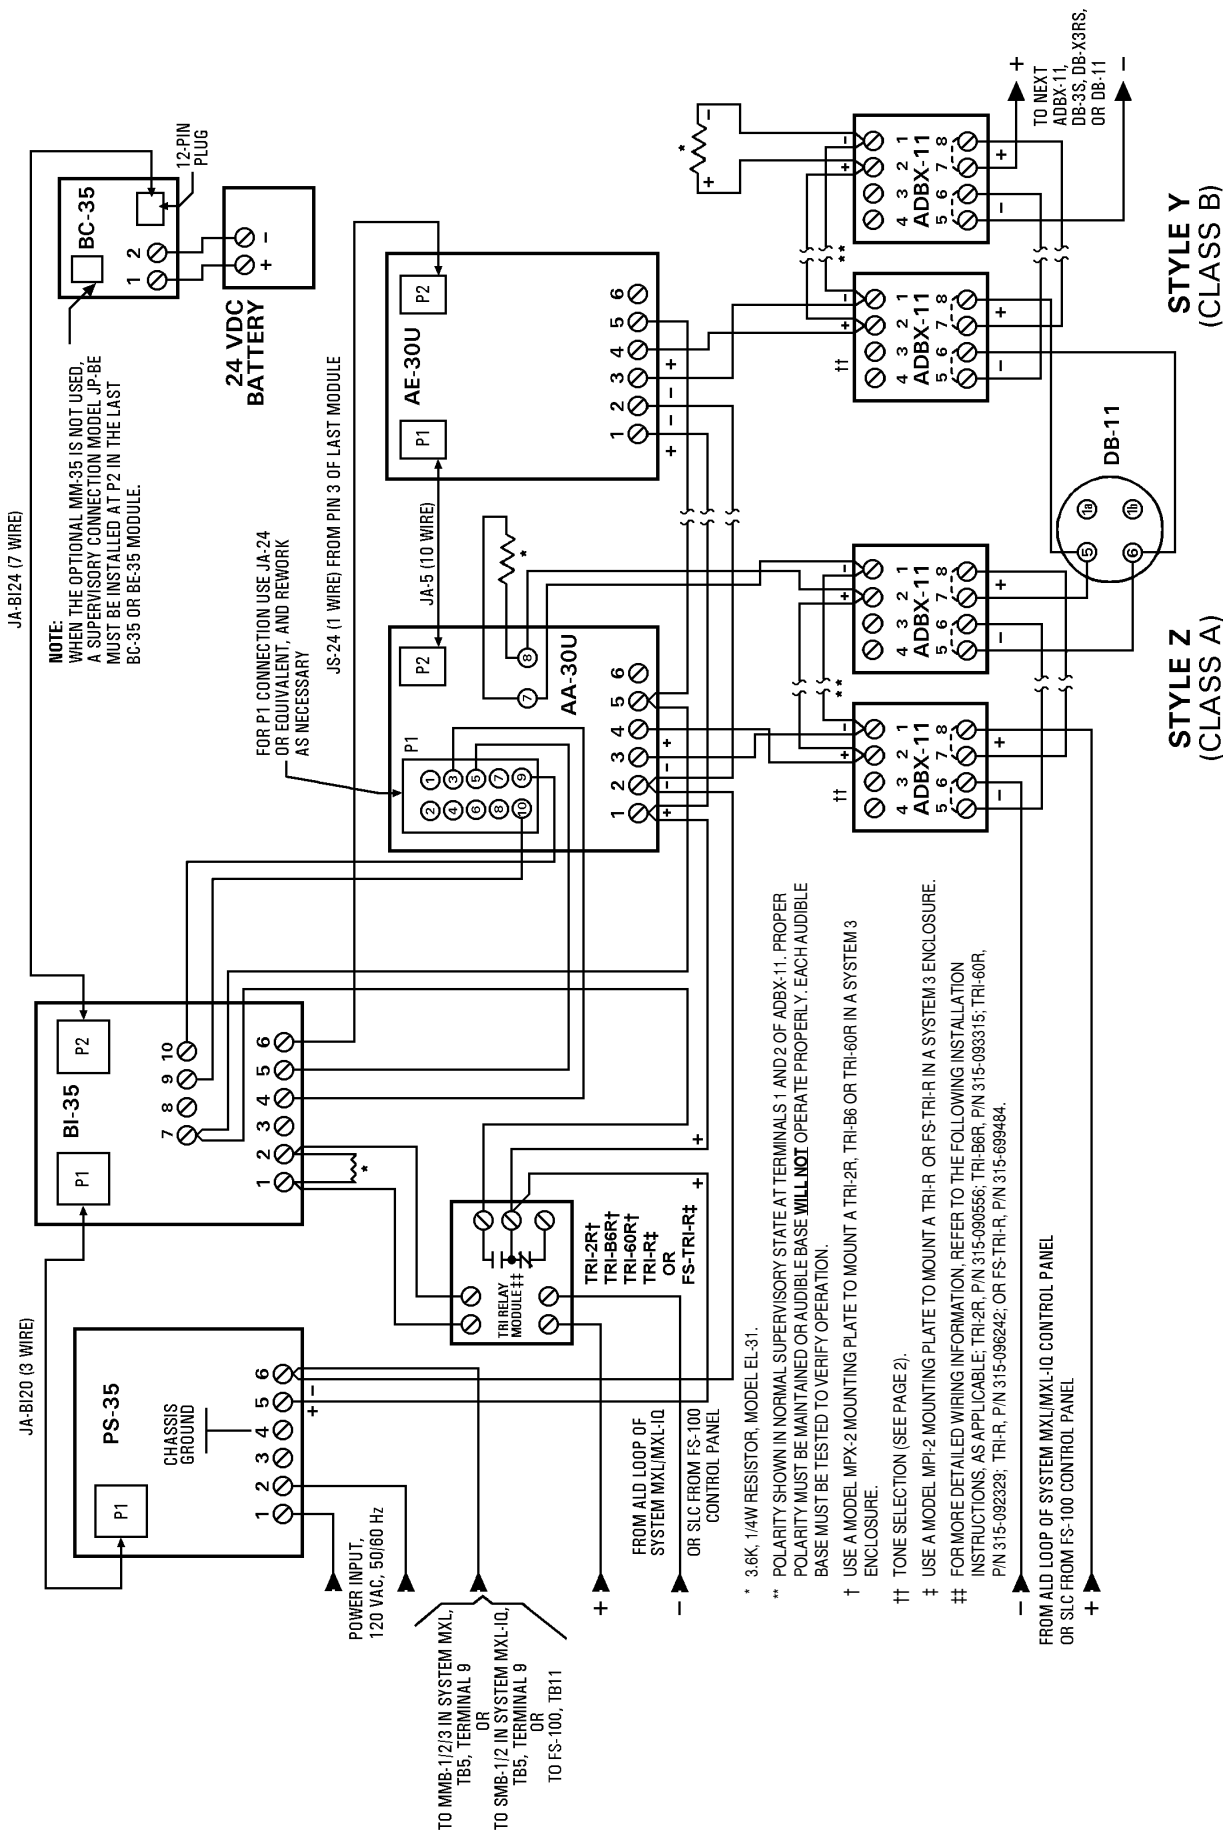
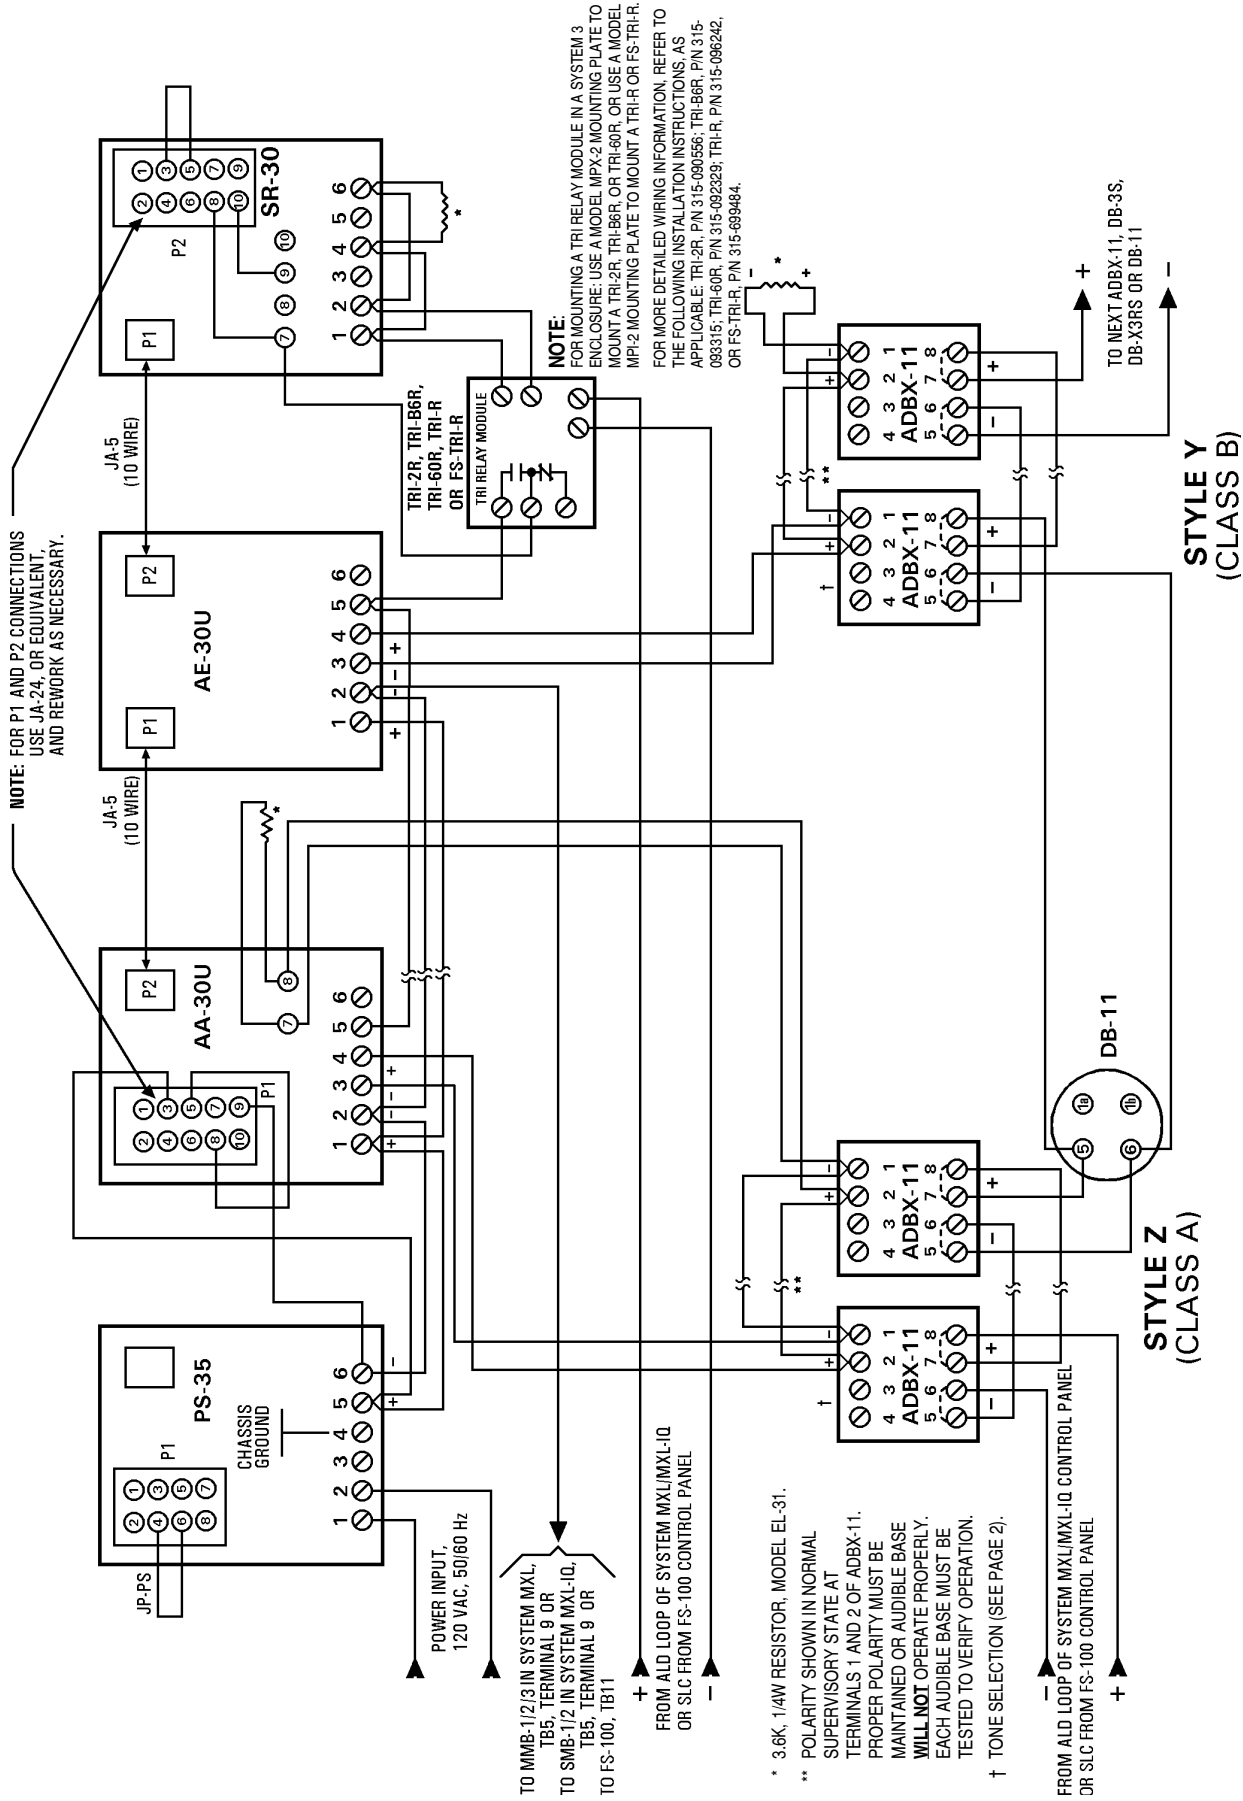
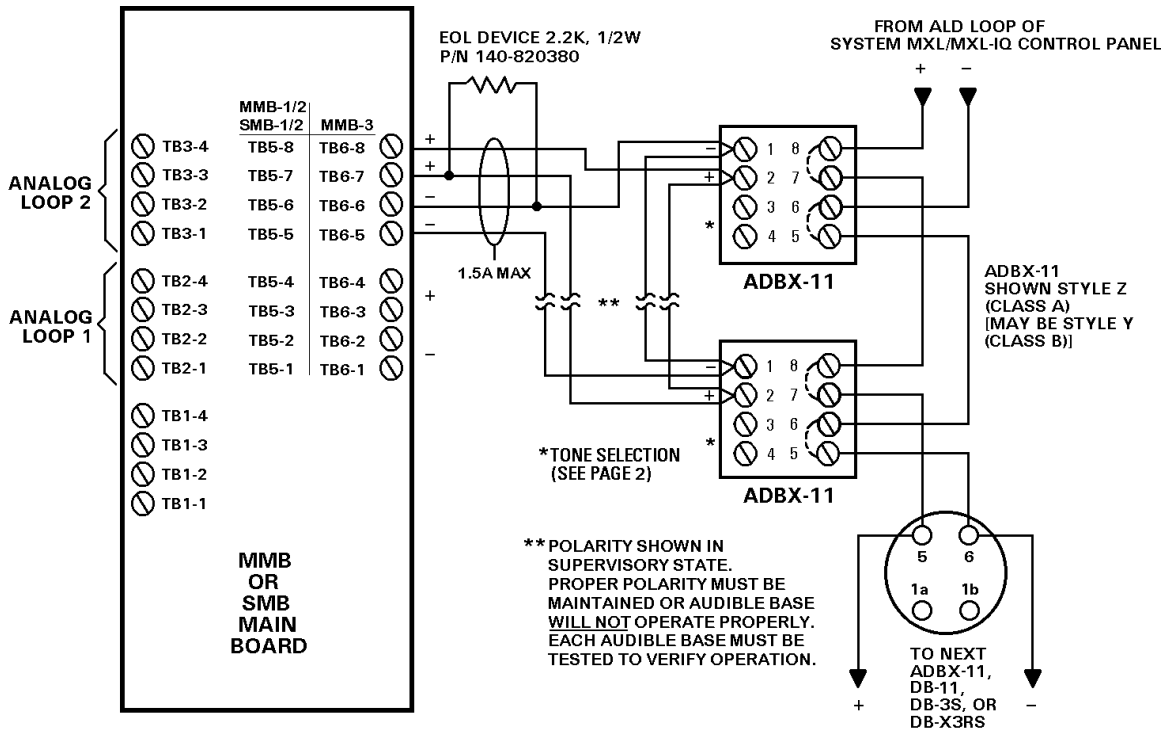
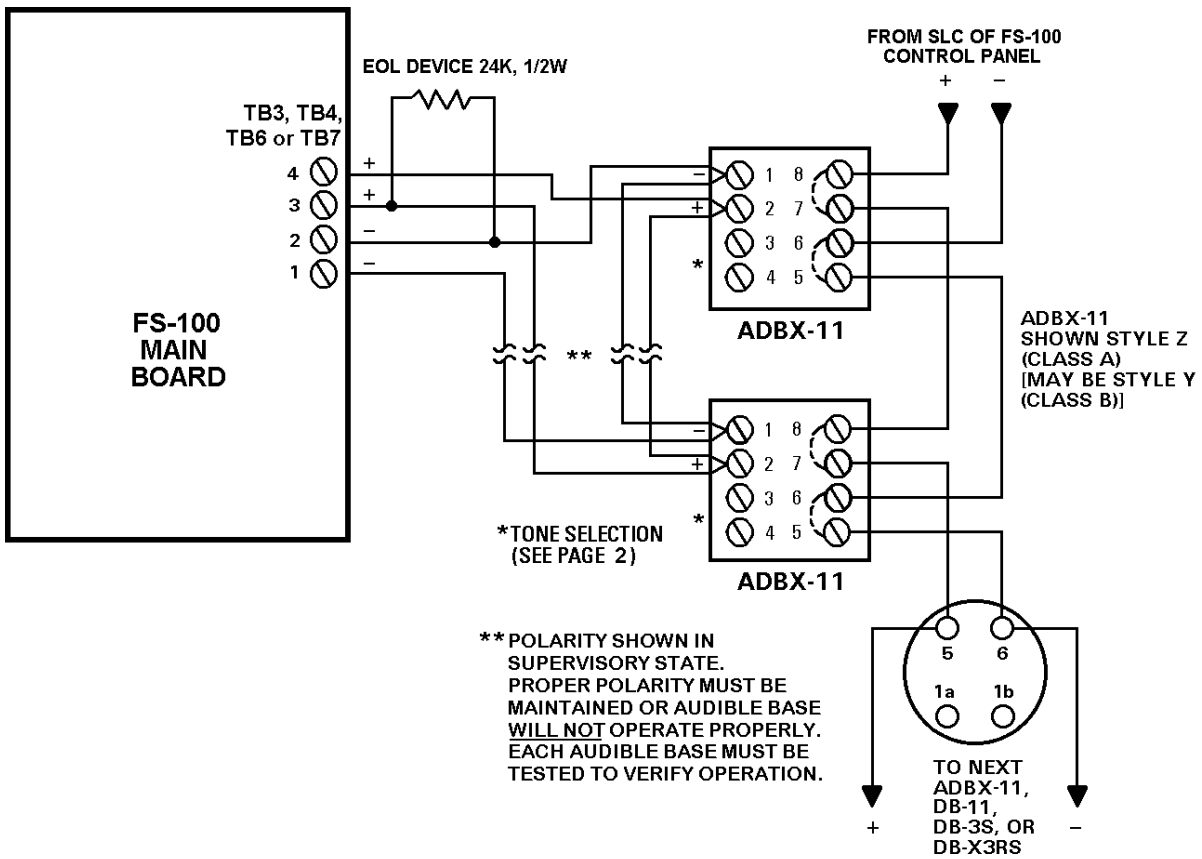

Figure 1
Figure 2
Figure 3
Figure 6
The Model ADBX-11 Audible Base consists of a standard Series 11 base combined with an audible device. All field wiring terminates at two four-position terminal blocks located on the back of the unit. The ADBX-11 is used with FP-11 and FPT-11 detectors, P/N 315-095921, and FS-DP, FS-DPT, and FS-DT detectors, P/N 315-699481. The ADBX-11 operates as described below (Refer to Figures 1, 2, 3, 4, and 5).
3. T-tapping of the notification appliance circuit (Figures 1, 2, 3, 4, and 5) is **not** allowed.
4. If the ADBX-11 is powered by System MXL/MXL-IQ (Figures 3, 4, and 5) or FS-100 (Figure 6), the notification appliance circuits supply 1.5A. If more than 1.5A is required, use the configuration in Figure 1 or Figure 2 for auxiliary power. See **Note** above.
5. Connect terminal 6 of the PS-35 (Figures 1 and 2) to the minus DC side of the MXL/MXL-IQ main power supply for proper ground fault supervision.
(Refer to Figure 6.) Audible base model ADBX-11 should be interconnected as shown in the *Installation/Wiring Diagrams* above and wired to the specific system modules and control panels following the appropriate instructions. For operation with System MXL/MXL-IQ, note any limitations on the number of audible bases permitted on each MMB-1/2, SMB-1/2, or CSM-4 audible circuit, depending on the total cable resistance for each audible signal circuit. (See **ELECTRICAL RATINGS** section.)